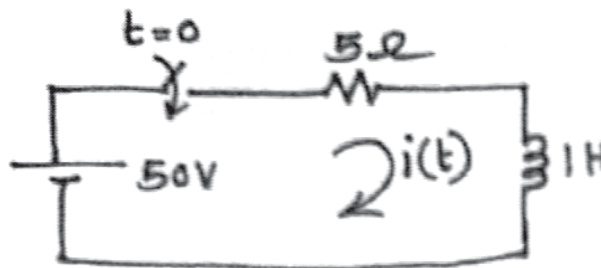

Fig.3
b) In the network shown in Fig. 3. switch is closed at $t=0$. Assume initial current of inductor to be zero. Find the values of [6]